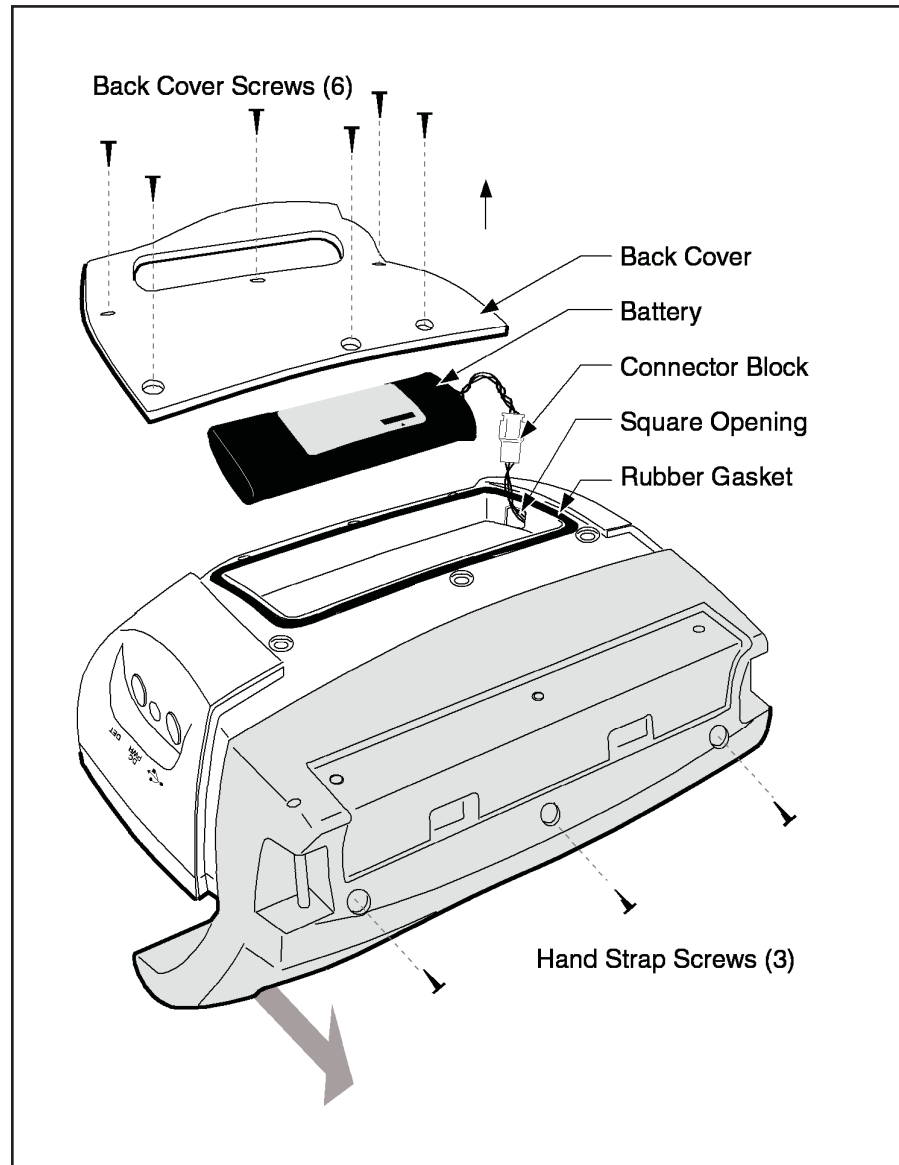

Figure 102 Accessing the Battery Compartment
5. Loosen the three screws that hold the probe mounting piece to the InSpector and pull the mounting piece about 1/8 inch (3 mm) away from the InSpector (Figure 102).